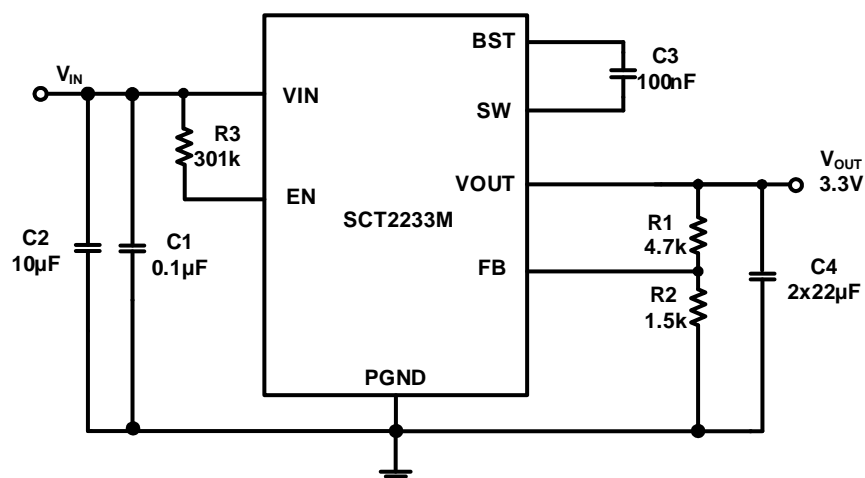

Figure 11. 8.5V Input, 3.3V/2A Output
The SCT2233M features external programmable output voltage by using a resistor divider network R1 and R2 as shown in the typical application circuit Figure 11. Use equation (8) to calculate the resistor divider values.